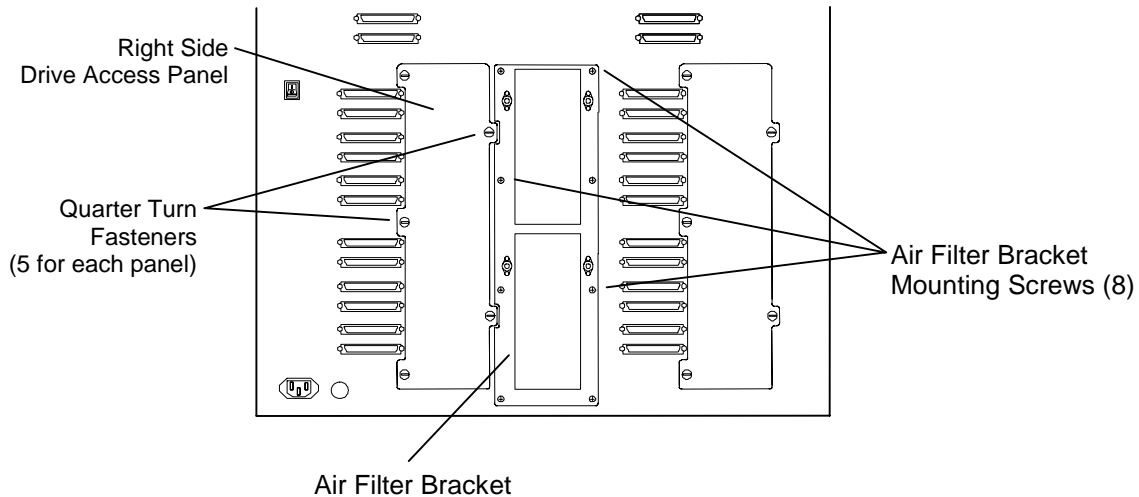

Figure 7-20 Air Filter Bracket on Rear of TLS-412300/600
7. Use a number 2 Phillips screwdriver to remove all eight Air Filter Bracket mounting screws. See Figure 7-20.
9. Using a flat blade screwdriver, remove the right side (as seen from the front) Drive Access Panel by turning its five quarter-turn fasteners counter-clockwise. See Figure 7-20.
10. Align the Air Filter Bracket mounting screw holes with their corresponding holes on the rear panel of the library. See Figure 7-20.
15. Align the right side Drive Access Panels five quarter-turn fasteners with the corresponding receptacles on the rear panel, then fasten it by turning the quarter-turn clockwise. See Figure 7-20.